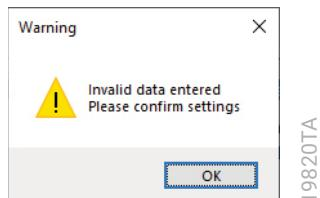
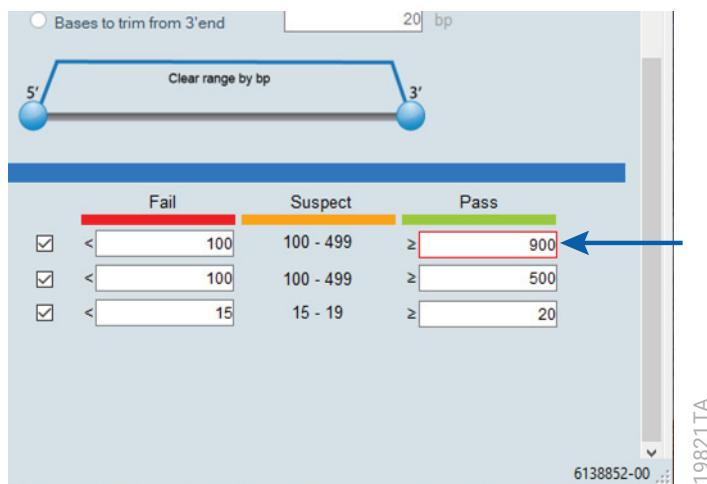

Figure 201. Warning message for invalid data.
Figure 202. Example of outlined invalid data.
6. When attempting to Save the Assay, any fields containing impermissible data will be outlined in red after receiving the following warning message (Figure 201 and Figure 202).
3. When attempting to Save the Instrument Protocol, any fields containing impermissible data will be outlined in red after receiving a warning message (see Figure 201 and Figure 202 for examples).
3. When attempting to Save the Basecalling Protocol, any fields containing impermissible data will be outlined in red after receiving a warning message (see Figure 201 and Figure 202 for examples).